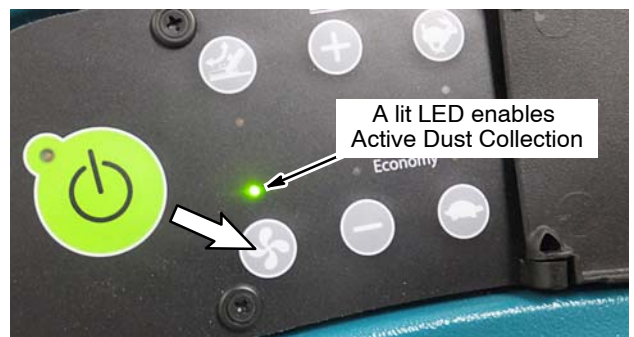

Fig. 11
2. Press the vacuum button to toggle ON and OFF. A lit LED indicates Active Dust Collection is enabled (Figure 11). Turn key off to save selection.